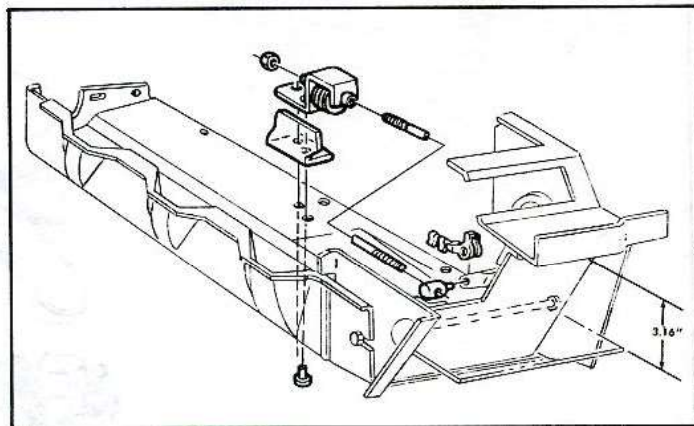

Fig. 24—Lower Shroud and Thermostat
**Lower Shrouds and Thermostats (Fig. 24)****Removal**